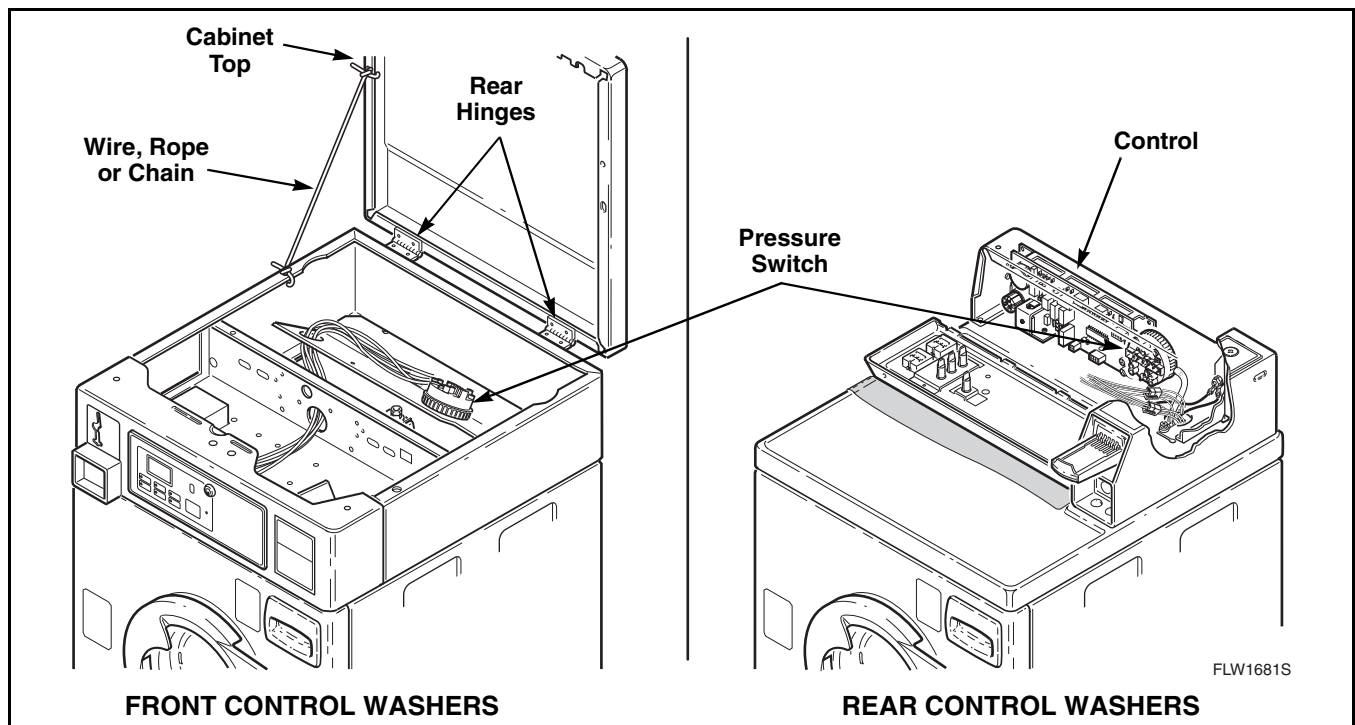

Figure 22
- d. Squeeze in locking tabs on pressure switch and remove switch. Refer to *Figure 22*.